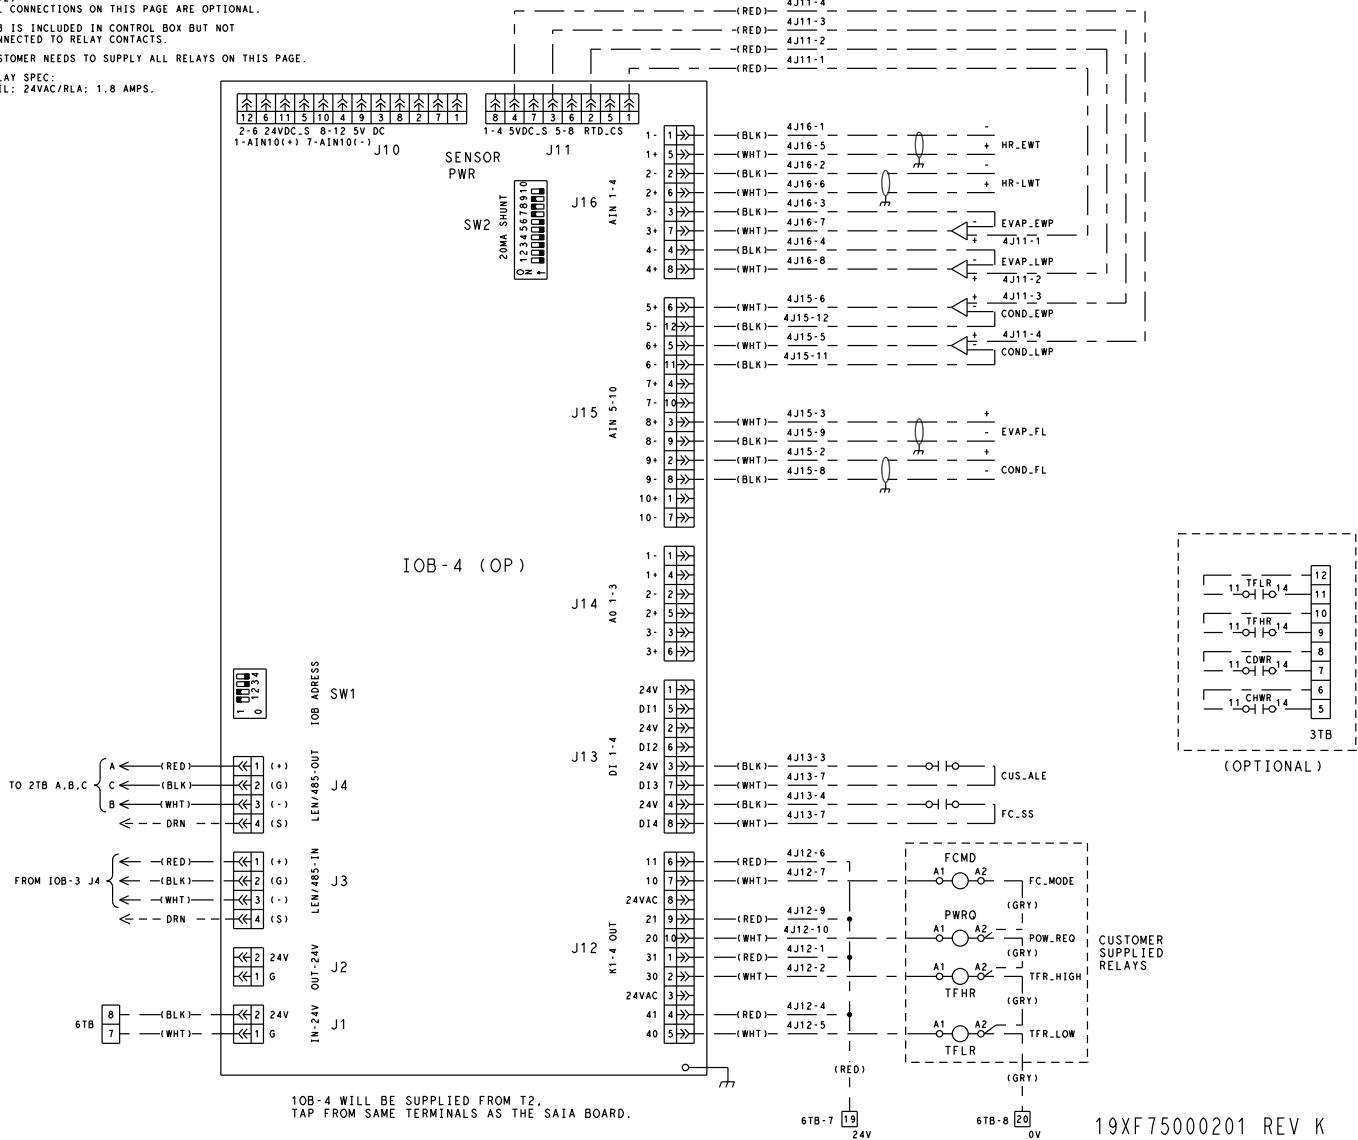

Fig. 15 — 19XR6/7 IOB4
- a. See Fig. 15 for IOB4 wiring diagram.
- b. For pressure readings, only Vout (output) terminal is indicated. See Fig. 15 for Vin (+) and ground (-).